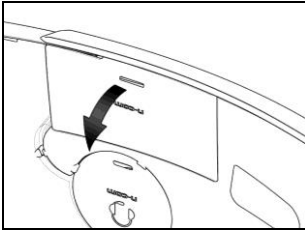

Fig. 20 – X-1005 HELMET
- On the right side of the helmet, bend the cheek pad lining and insert the battery in its housing (Fig. 20 - 21 - 22).